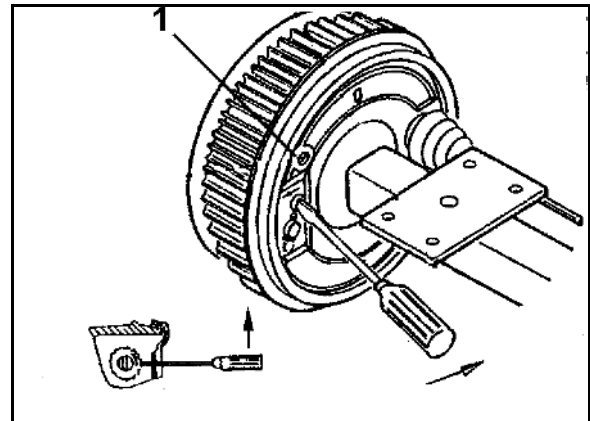

Fig. 124
- Inspection hole (Fig. 124/1)